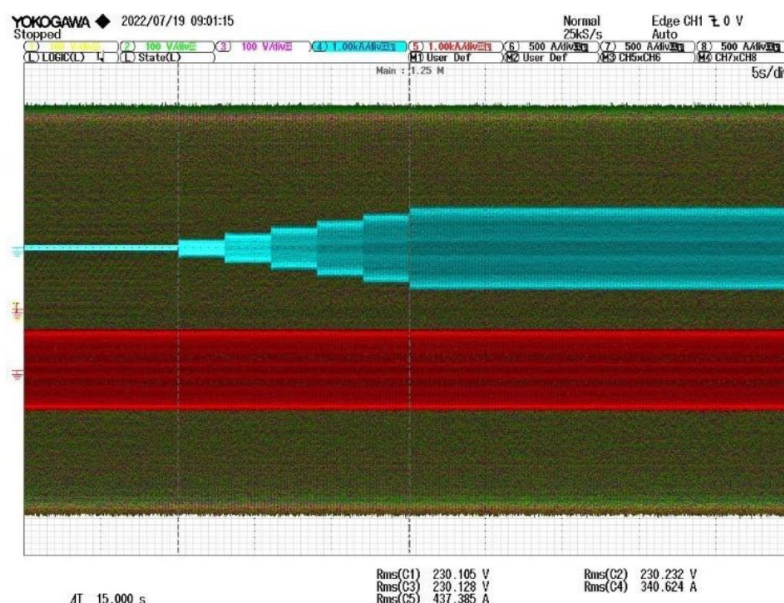

Figure 5 – UPS - Main input current characteristic
A UPS system looks for stability of the input supply be it mains or generating set. When returning from battery supply to either mains or generator the UPS's input power requirements slowly ramps in over a period of 5-10 seconds (or longer), not in one single "lump" of load. Fig 5 shows the input current (blue trace) of a UPS transferring from battery supply to mains supply following a mains failure. In this case, the transfer occurs gradually over a 15sec period.
- (1) BS ISO 8528-1: 2018 sets out the minimum requirements which in the case of the COP rating is 70% of the PRIME rating. The actual rating will depend on the engine selected and engine manufacturer. The case of the Kohler KD range the COP rating is a minimum of 75% of the PRIME rating.
- (2) In this case the rating in BS ISO 8528 hasn't kept up with developments in the marketplace.
- (3) The engine configuration and much higher power output capacity per cylinder of the Kohler engine when compared to other engines means that the number of cylinders used is less making the engine much shorter. For example, the Perkins powered FG Wilson P2500 (2500kVA ESP / 2250kVA PRP / DCP 2250kVA) set has a V16 configuration. The equivalent Kohler engine, the KD2500 (2500kVA ESP/2250kVA PRP/2500kVA DCP) offers this power in a 12 cylinder format. The 12-cylinder format is used through to the KD2800. The philosophy of high-power output per cylinder continues through the range right up to the KD4500
- (4) Figure 5 - KUP - Kohler UPS